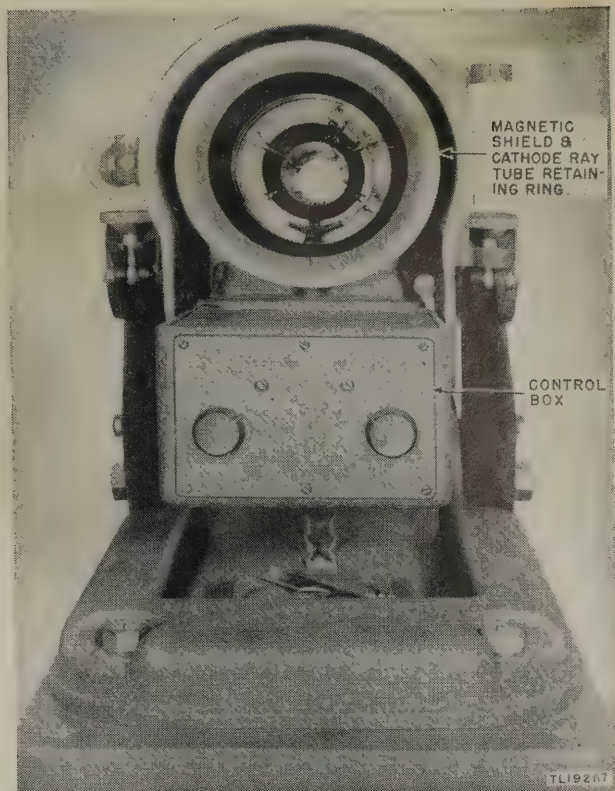

Figure 178. Bearing Indicator BC-1159-A, showing tube housing removed.
- (1) Remove the cathode-ray tube (par. 173).
- (2) Remove the rubber ring and magnetic shield (fig. 178) which supports the front of the cathode-ray tube.
- (3) Loosen the knurled screw at the rear of the control box and pull the control box away from the indicator.
- (4) Remove three screws which hold the cathode-ray tube housing to the indi-